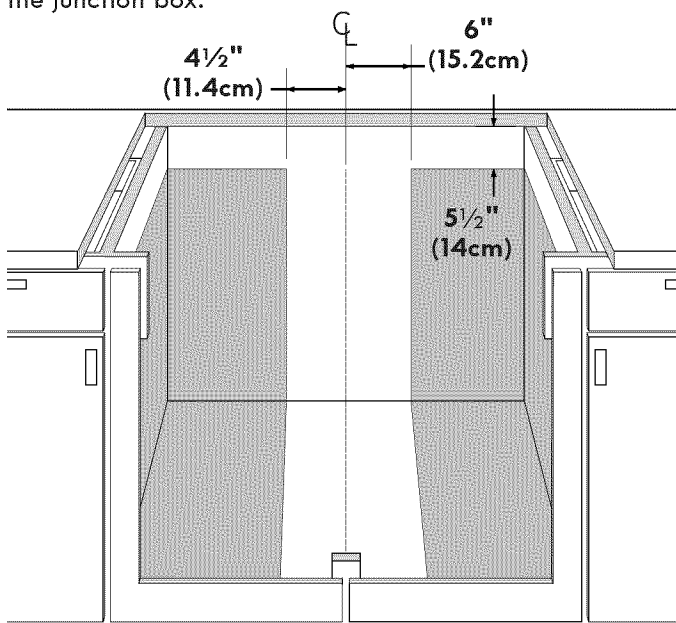

Figure 4 – ELECTRICAL OUTLET INSTALL DIMENSIONS
2. The appliance should be connected to the fused disconnect (or circuit breaker) box through flexible armored or nonmetallic sheathed cable. The flexible armored cable extending from this appliance should be connected directly to the grounded junction box. The junction box should be located as shown in Figure 4 with as much slack as possible remaining in the cable between the box and the appliance, so it
Install the junction box under the cabinet within shaded area shown in Figure 4 and run 120/240 or 120/208 Volt, AC wire from the main circuit panel.